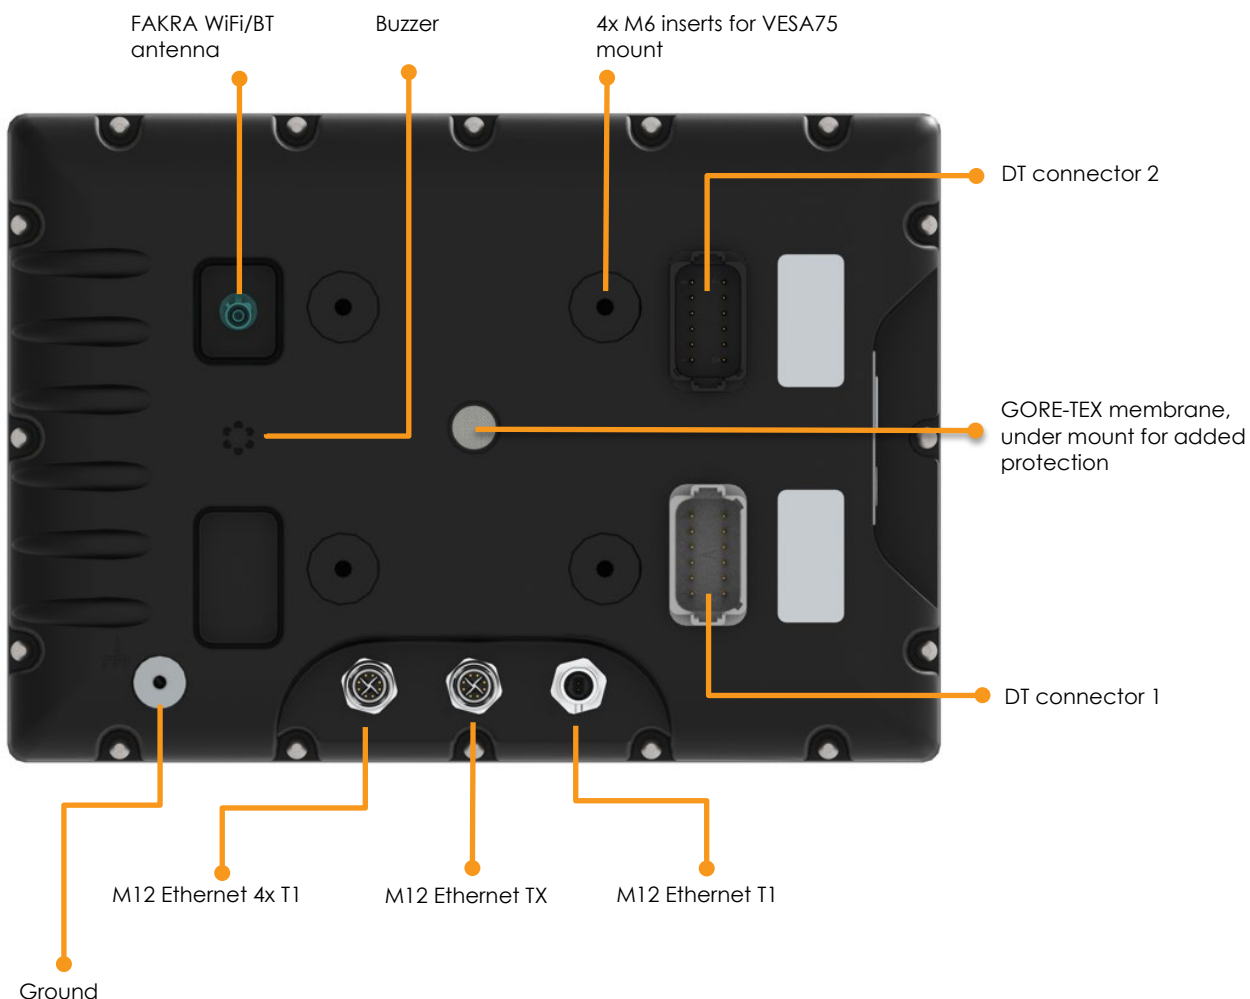

Figure 4: CCpilot V1090/V1290 rear side view
- The device has a ventilation membrane, refer to Figure 4 for the location. For proper ventilation of the device, dirt and water must be prevented from accumulating and covering the membrane. Be cautious not to insert objects which may puncture the membrane. Doing so will violate the IP-classification and void the warranty of the device.